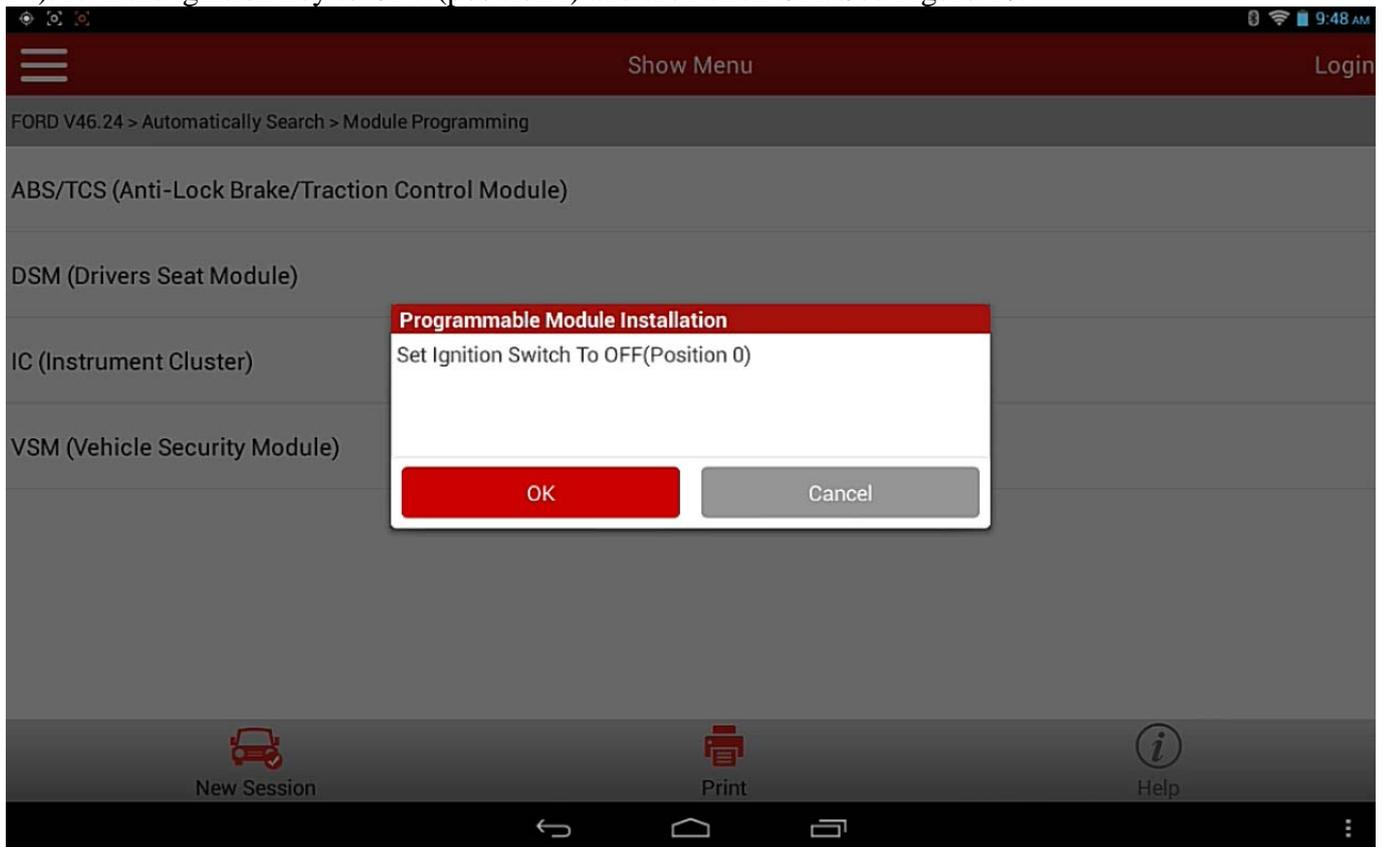

Figure 10
14). Turn the ignition key to OFF (position I) and then click OK. See Figure 10.